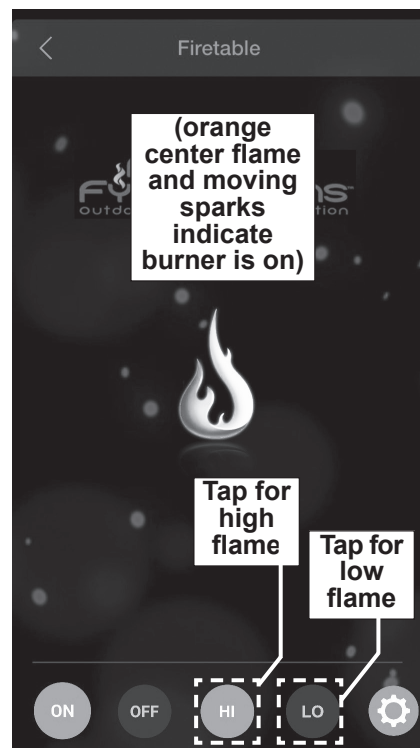

Fig. 35-1 Remote Operation:
1. Locate the **POWER** button on the control panel, and push it (see Fig. 35-1). The light will illuminate indicating the system is on and ready.
2. From within the app, proceed to the Devices screen and select your unit. The remote screen will appear. See Fig. 35-1.
3. Tap the **ON** icon found on the bottom left of your remote screen (see Fig. 35-1).
The flame height can be adjusted via the remote app. Tap the **HI (high)** button to increase the flame height. Tap the **LO (low)** button to decrease the flame height. See Fig. 35-1. (LO setting available after 60 seconds.)
To shut down the burner (system will remain on), tap the **OFF** icon found on the bottom left of your remote screen. The screen will no longer display the orange center flame and moving sparks. See Fig. 35-1. The **AUX CONTROL** button indicator light will also go off.
To shut down the burner and system (total shutdown), or if the remote app is unavailable, push the **POWER** button on the control panel. See Fig. 35-1. The **POWER** and **AUX CONTROL** button indicator lights will go off. (Fully power off when covering or when not in use.)